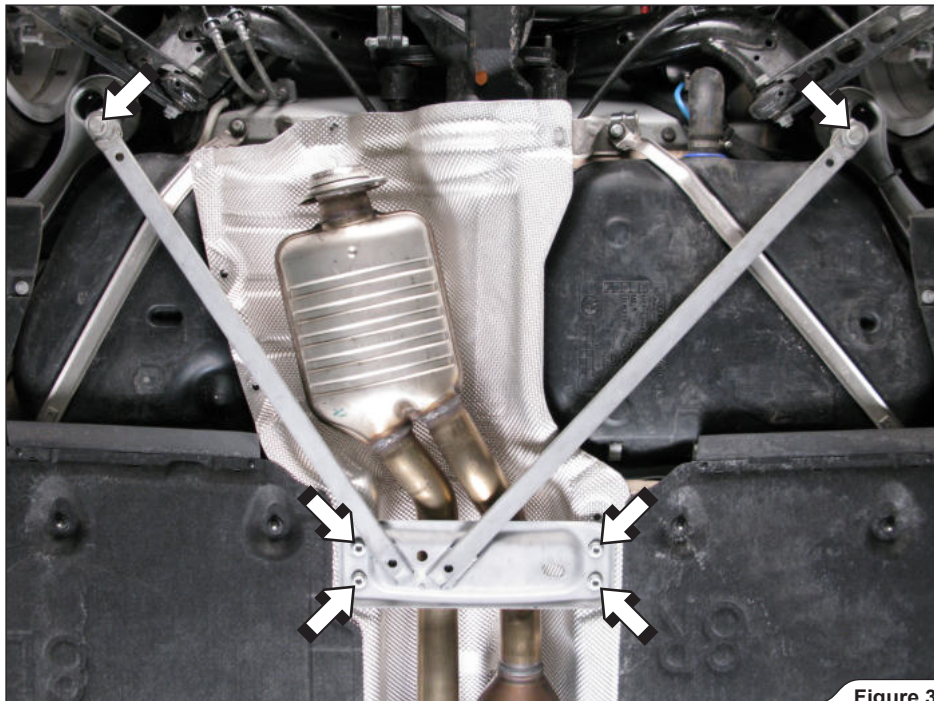

Figure 3
3. **For Evolution:** unscrew the marked bolts and remove the chassis reinforcement off the vehicle (**Figure 3**).